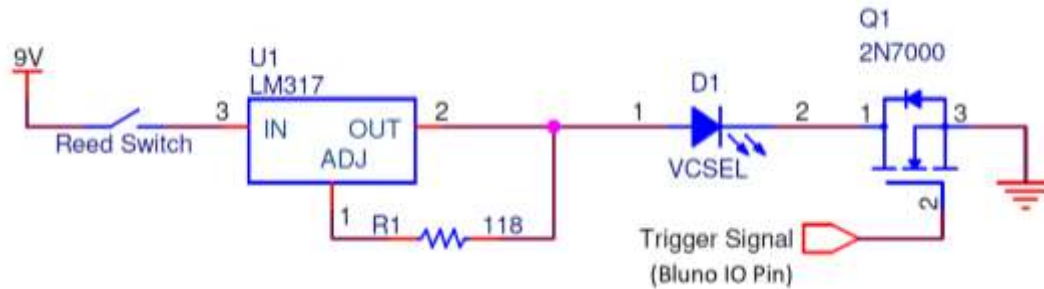

Figure 4. Laser Control Circuit Including Safety Interlock Reed Switch
1. The laser control subsystem (Figure 4) is composed of the laser (OPV332, TT Electronics), current source (LM317 voltage regulator and 118-ohm ½-watt resistor),